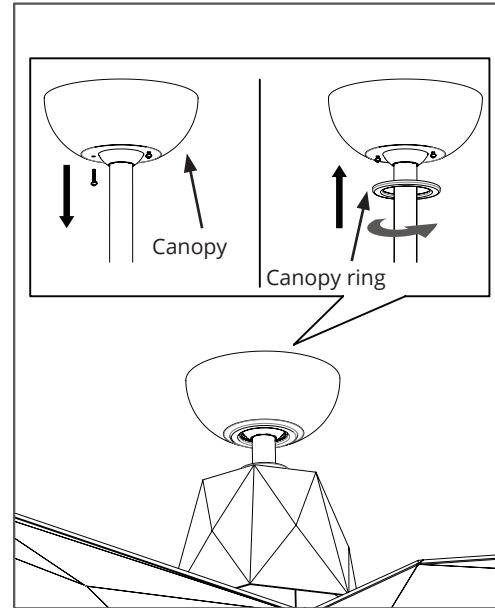

FIGURE 18
3. Slide the canopy up to the hanger bracket and place the key hole on the canopy over the screw on the hanger bracket. Turn canopy until it locks in place at the narrow section of the key holes (Fig. 18).
5. Lock the canopy ring onto the screws in step 4. Adjust the screws as necessary until the canopy and canopy ring is snug (Fig. 18).